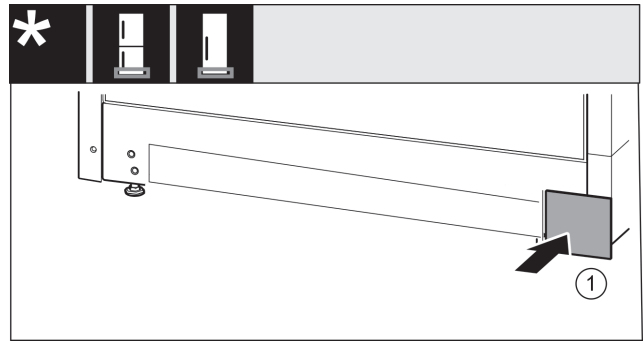

Fig. 20
- ▶ Re-attach the cover Fig. 20 (1) to the other side.